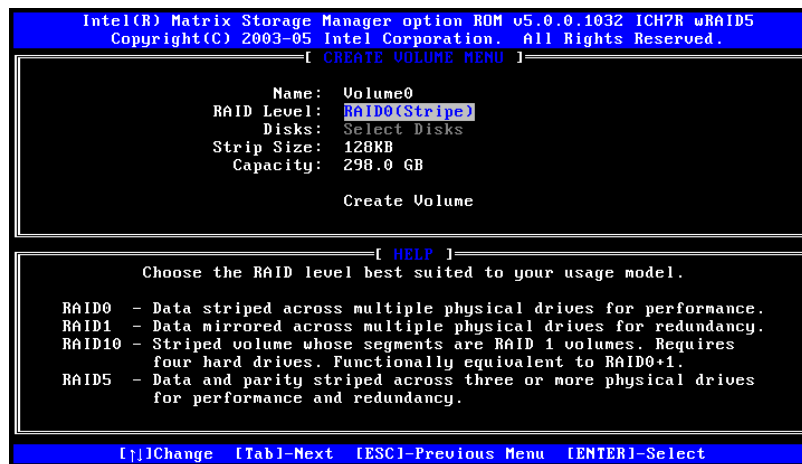

Figure E-3: Choose the Raid Level
Step 3: Choose the RAID level. Select a RAID level from the list. RAID levels include RAID 0, 1, 5 and 10. See Figure E-3.